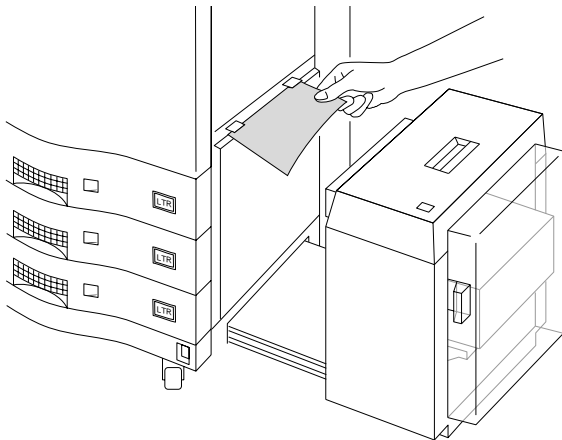

Figure 3-48 Removing paper between the HCI and the printer
5. If there is paper hanging out of the printer or the HCI, remove it, as shown in Figure 3-48: